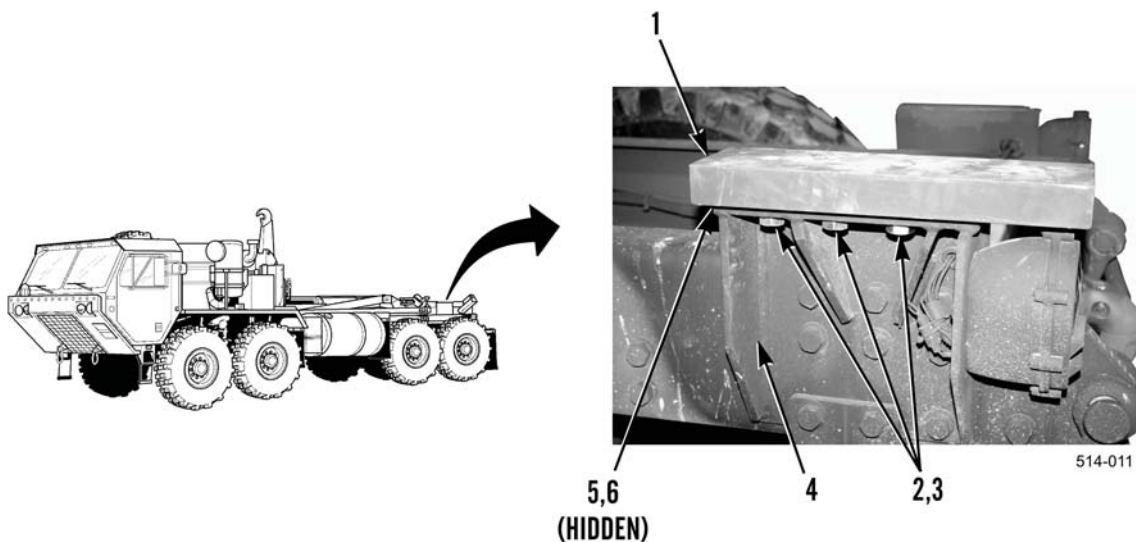

Figure 36. HEMTT Slider Mounting Block Installation.
4. Install three washers (Figure 36, Item 2) and bolts (Figure 36, Item 3) in slider support bracket (Figure 36, Item 4).